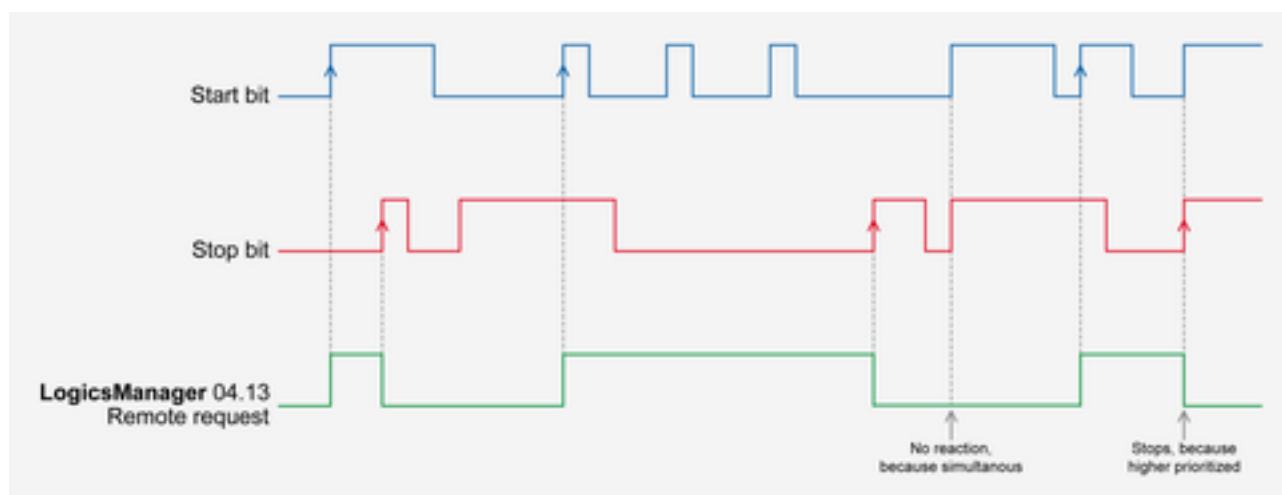

Fig. 245: Command variable
- The command variable "04.13 Remote request" changes to "0" (low) if the stop bit (ID 503, bit 1) changes from "0" to "1" (Fig. 245).